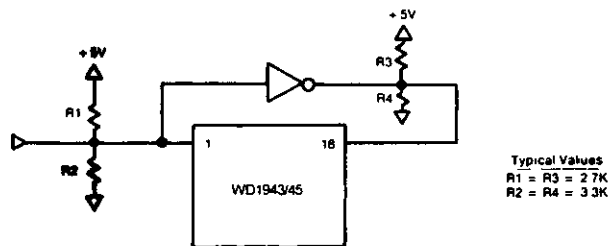

Figure 4. PULL-UP/PULL-DOWN RESISTORS TO MATCH IMPEDANCE
2. Add pull-up/pull-down resistor to match impedance, as shown in Figure 4.